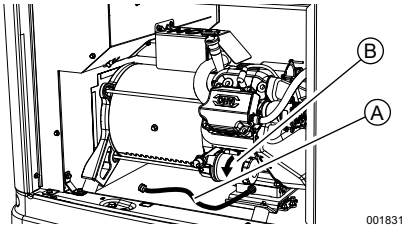
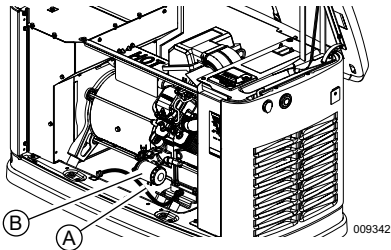
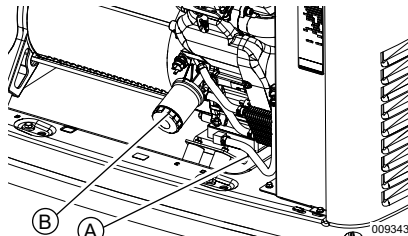

Figure 4-1. Oil Filter and Drain Location (10 kW)
Figure 4-2. Oil Filter and Drain Location (14-18 kW)
Figure 4-3. Oil Filter and Drain Location (20-26 kW)
2. See Figure 4-1, Figure 4-2, or Figure 4-3. Remove front panel when unit has cooled. Pull oil drain hose (A) free of retaining clip. Remove cap from oil drain hose and place free end into a suitable container. Drain oil.